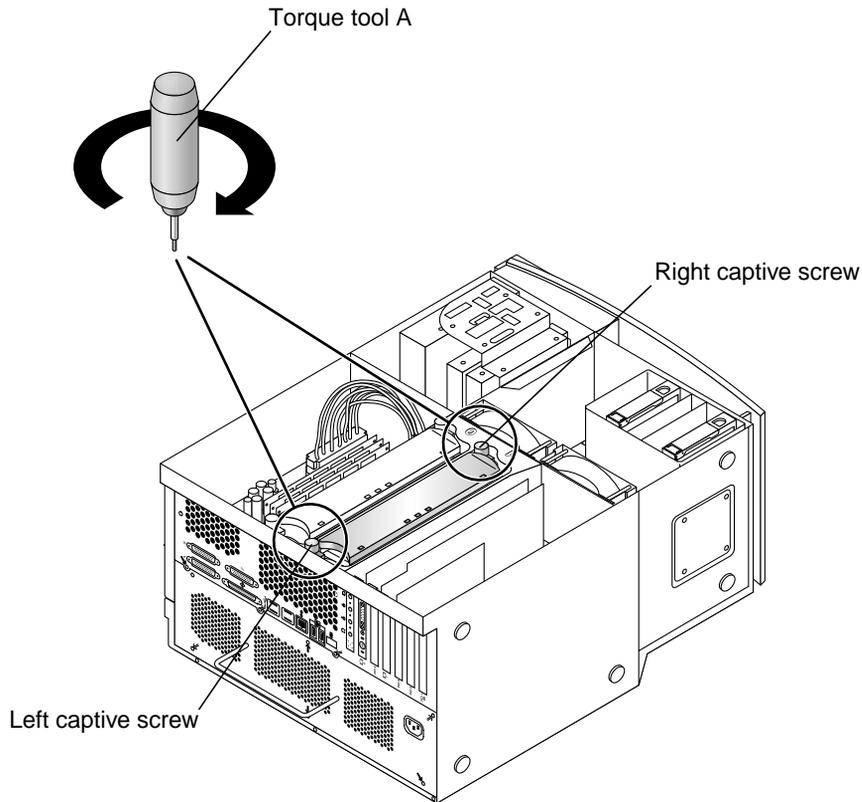

FIGURE 16 Alternately Rotating Left and Right Captive Screws One Turn Clockwise
10. Use torque tool A to rotate the left captive screw one turn clockwise (see FIGURE 16).
11. Use torque tool A to rotate the right captive screw one turn clockwise (see FIGURE 16).